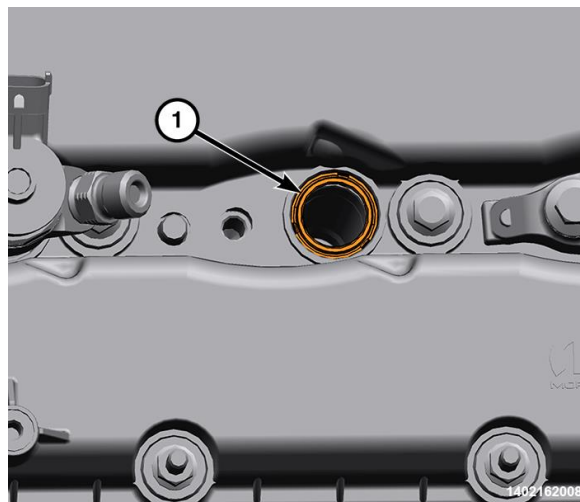

Figure 42 – Fuel Injector Seal
52. Install a NEW fuel injector seal (1) in the cylinder head cover (Figure 42).